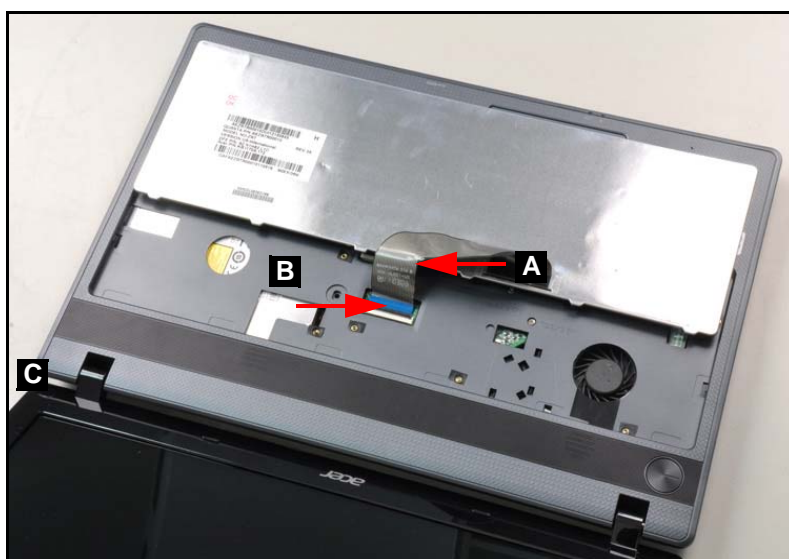

Figure 3-6. Keyboard FPC
2. Turn the keyboard over so that the keys are face down on the upper case (C) (Figure 3-6).
3. Disconnect the keyboard FPC (A) from the mainboard connector (B) (Figure 3-6).
1. Put the keyboard face down on the upper case (C). Refer to Figure 3-6.
2. Connect the keyboard FPC (A) to the mainboard connector (B). Refer to Figure 3-6.